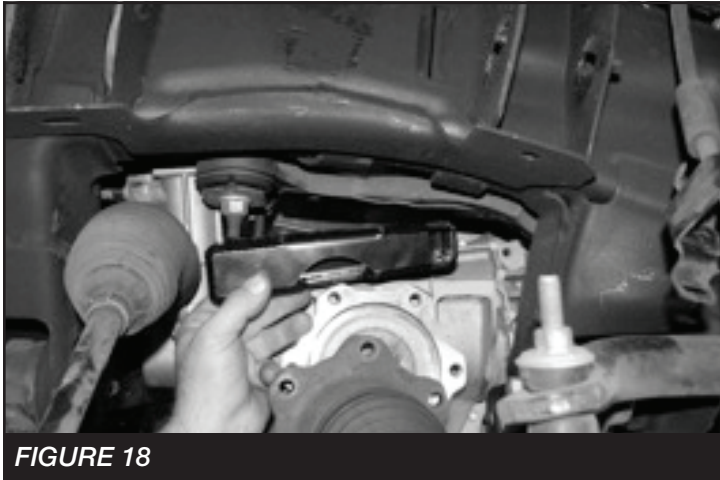

FIGURE 18
18. Locate the FT20625 driver side diff mount and the FT20626 passenger side diff mount. Starting on the driver side, remount the diff with two M12-1.75 x 70mm bolts. **SEE FIGURE 18**